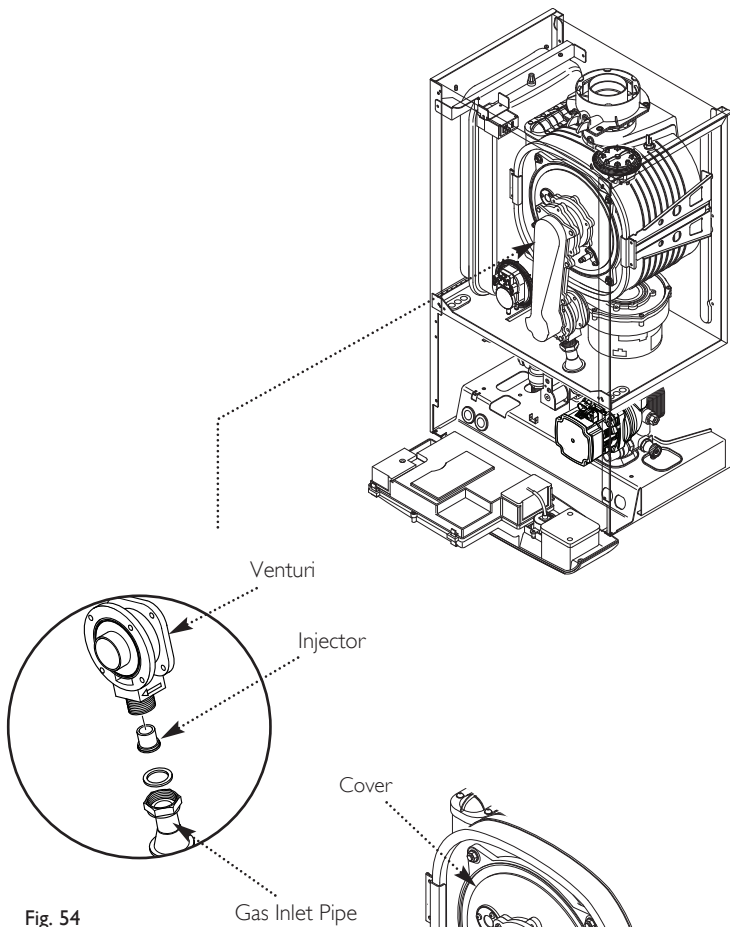

Fig. 54
13.4 Fan (Fig. 54)
1. Undo the nut on the gas inlet pipe to the venturi (Fig. 54) and pull the sensing pipe off the fan.